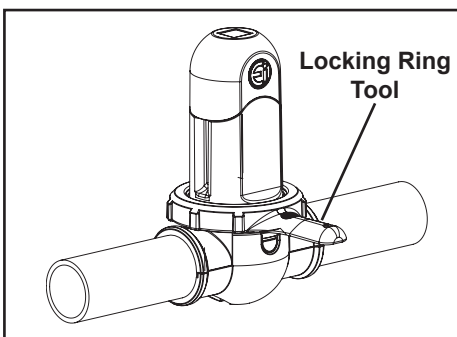

Figure 25. Undo Locking Ring
4. Undo the locking ring. If required, use the locking ring tool provided (see Figure 25).